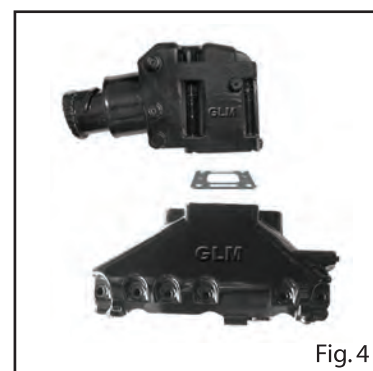

Fig. 4
8. Install the exhaust elbows to the manifolds using the new gaskets and screws (see Fig. 4). Torque the screws to 33 ft.lbs. (45Nm) for cast iron elbows.